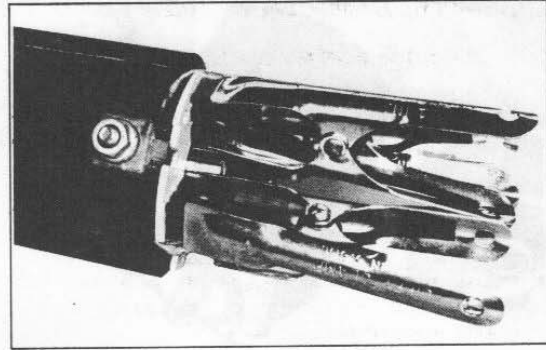

Figure 5-45. Using Clamps to Hold Prestolite Brushes in Place
Reassembly is essentially the reverse of the disassembly procedure. If brushes (9 and 10) and springs (8) have been released from holder, use clips or clamps as shown in Figure 5-45 to hold them in place while installing armature. Note that drive end of frame is notched to fit drive end cover. Line up positioning notch in the brush holder assembly with terminal insulator. Line up positioning mark on commutator end head with motor terminal. Install thru bolts, tightening to 20-25 in-lbs torque.